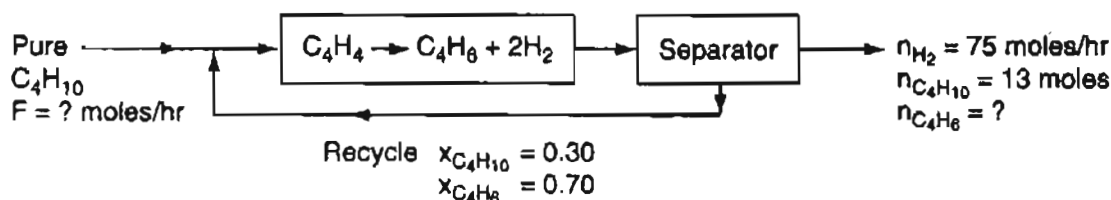

Figure SAT12.3P1
1. A catalytic dehydrogenation process shown in Figure SAT12.3P1, produces 1, 3 butadiene (C_4H_6) from pure normal butane (C_4H_{10}). The product stream contains 75 mol/hr of H_2 and 13 mol/hr of C_4H_{10} as well as C_4H_6 . The recycle stream is 30% (mol) C_4H_{10} and 70% (mol) C_4H_6 , and the flow is 24 mol/hr.